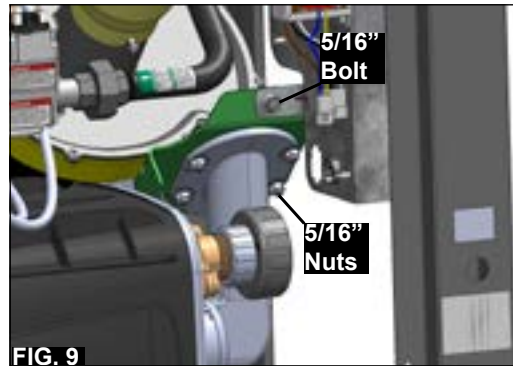

FIG. 9
8. Remove the 5/16" nuts (x4) and the 5/16" bolt (x1) that secure the air manifold (horn) to the blower bracket and the electrical panel. (Fig. 9).